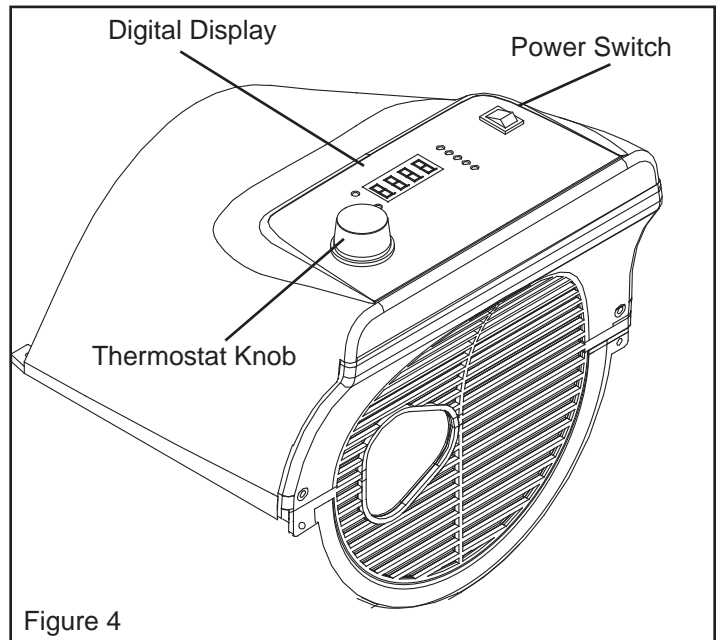

Figure 4
5. Move power switch to "On" position. The power indicator light and room temperature display will illuminate and heater will ignite. (See Figure 4)